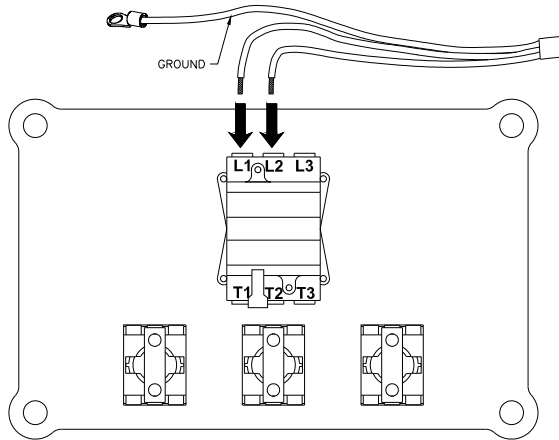

Fig. 4 – Power Supply Connection
11) Connect the electrical supply to the contactor (L1 & L2) on the back side of the cover, Fig. 4. Connect the ground wire to the console below the cover.